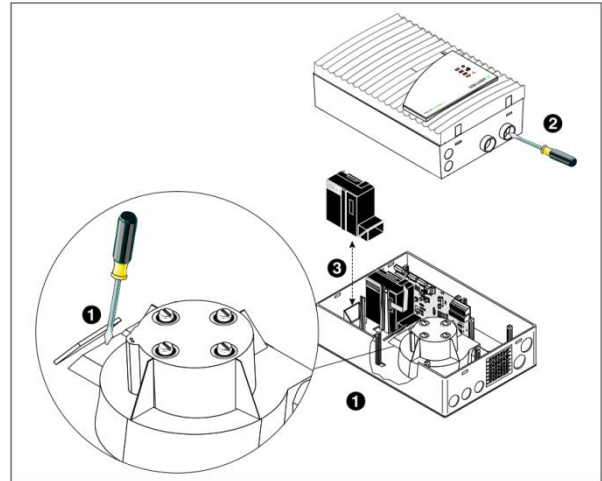

Figure 2: Detector Head Installation
- 3.4 Note the correct detector head orientation (figure 2) and install the detector by spreading the support clamps and placing the detector head between them. Both clamps should fit tightly against the module and snap in audibly. Press the support clamps together.
The middle inlet in Fig 2 is for the first pipe (1st detector) and the outer for the 2nd detector if fitted.